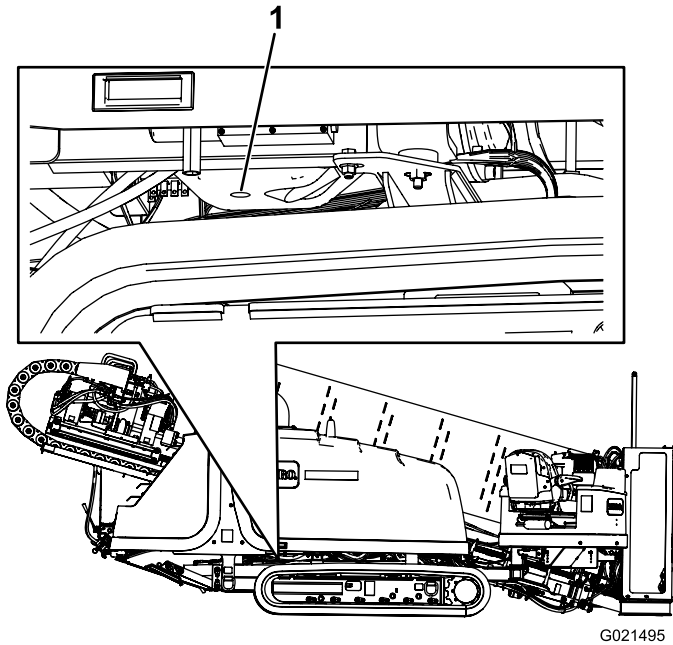

Figure 125
2. Remove the drain plug (Figure 125).
7. Install the drain plug onto the drain fitting (Figure 125).